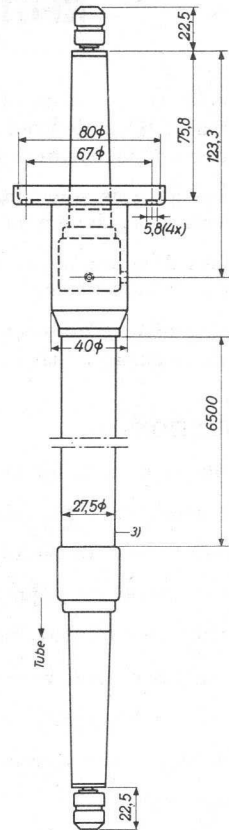

Fig. 2. High-tension cable (type No. 56066)
- d. HT cable with connector 1) (type No. 56066, see Fig.2)